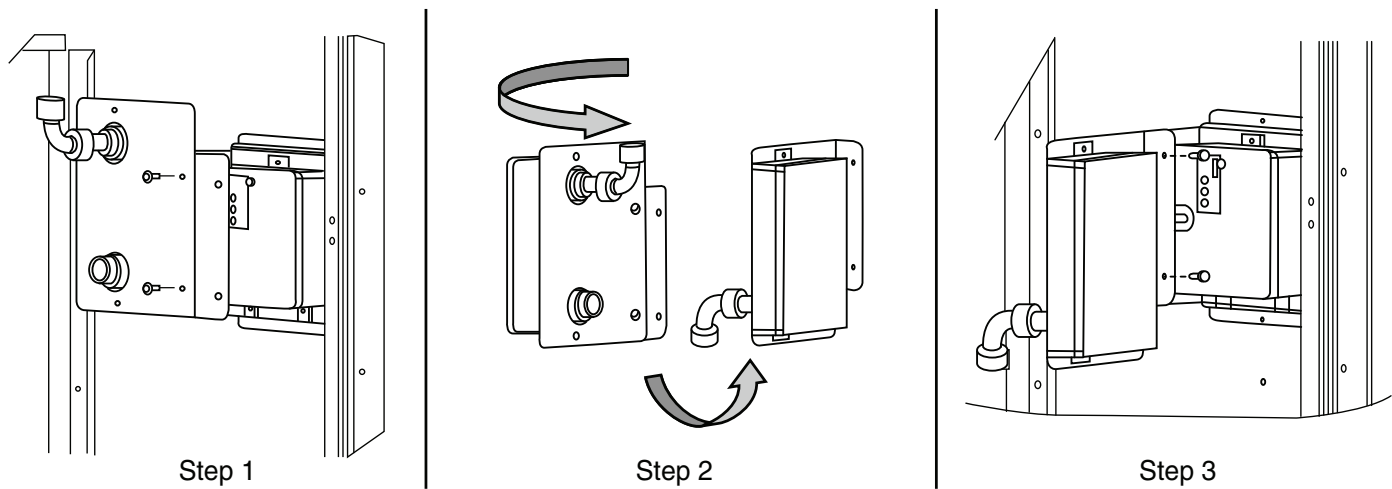

Fig. 49 — Completing Installation of Return Air Smoke Sensor
1. Unscrew the 2 screws holding the Return Air Smoke Detector assembly. See Fig. 49, Step 1. Save the screws.
2. Turn the assembly 90 degrees and then rotate end to end. Make sure that the elbow fitting is pointing down. See Fig. 49, Step 2.
3. Screw the sensor and detector plate into its operating position using screws from Step 1. See Fig. 49, Step 3.